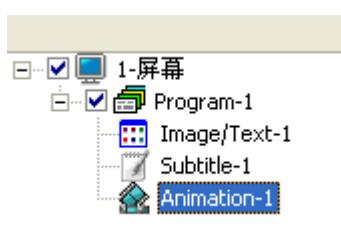

figure 3-18
- ◆ Animation :click animation button, add new animation area in the current screen, as shown in figure 3-18, set the animation attributes as your require. More details about animation attributes setting ,please check in “4.4 animation attributes”